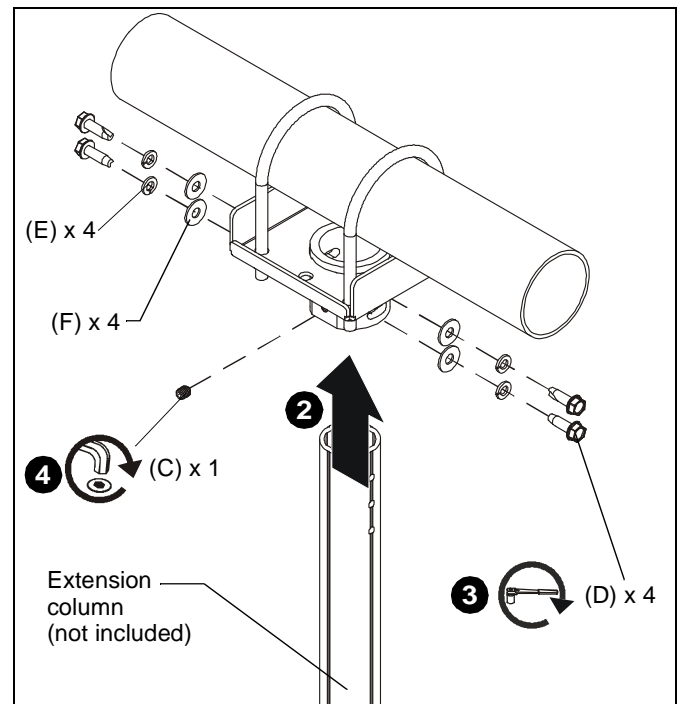

Figure 3
3. Secure extension column to CPA365 using four 5/16-18 x 1" hex head self-tapping screws (D), four 5/16" split lock washers (E) and four 5/16" flat washers (F) through holes in extension column. (See Figure 3)
4. Install one 5/16" x 1/2" set screw (C) into threaded hole, tightening firmly against column. (See Figure 3)